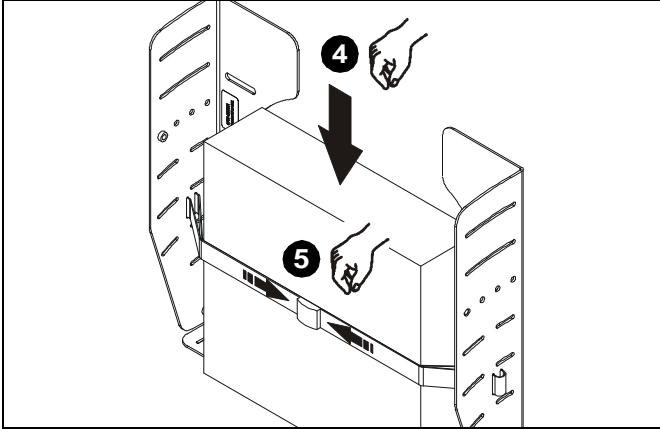

Figure 5
4. Carefully slide CPU between strap (E) and rear surface of side plates (See Figure 5). Ensure the following:
- Both loops of strap (E) are in front of the CPU; do not wrap strap (E) around back of CPU.